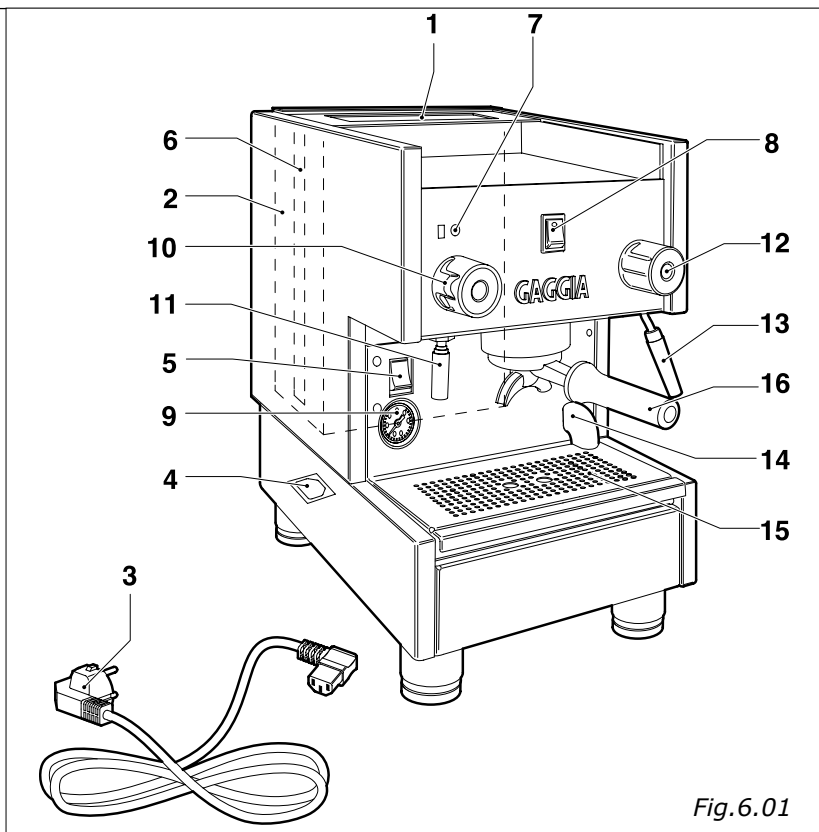

Fig.6.01
- The self-level device will start at the same time as the relevant light (Fig.6.01-pos.8), so that the water can reach the regular level in the boiler. Only during the first loading, this operation can take quite a long time and make the machine stop; in this case switch off the machine and switch it on again by acting on the main switch (Fig.6.01-pos.5).
- Then wait until the machine reaches the operating pressure of "1,2 - 1,3 BAR" by checking the boiler pressure on the manometer (Fig.6.01-pos.9).
- Place one or two cups under the filter holder (Fig.6.07), put the coffee switch (Fig. 6.01-pos.8) on "I" and the coffee will start coming out.